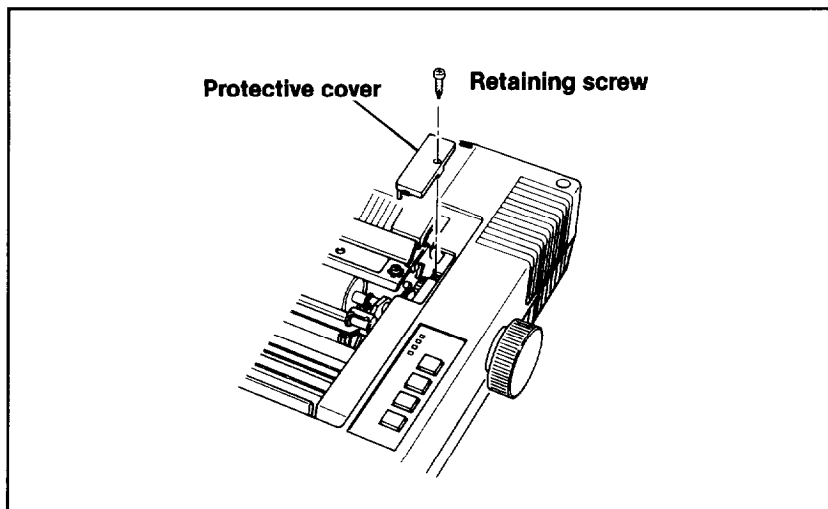

Figure 3-3. Protective cover removed
The following steps show you how to prepare the printer for pin-feed paper (see Figures 3-3 and 3-4).
3. Remove the small protective cover on the right side of the printer to make room for the tractor unit. It is retained by a single Phillips screw as shown in Figure 3-3. Put the piece away in a safe place.